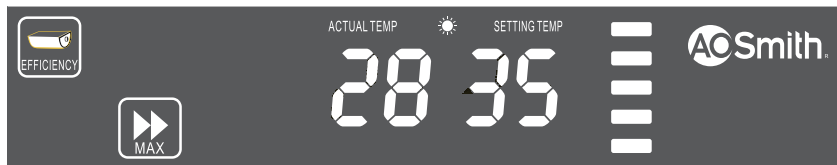

Fig.12
4. Temperature Setting (Fig.12, 13)